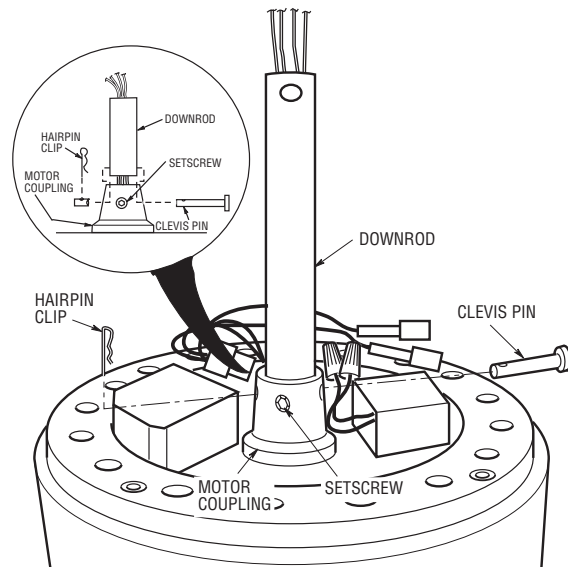

Figure 6
- 15. Slide the downrod down the wires and seat the downrod in the motor coupling (Figure 6).
- 16. Align the clevis pin holes in the downrod with the holes in the motor coupling. Install the clevis pin and secure with the hairpin clip (Figure 6). The clevis pin must go through the holes in the motor coupling and the holes in the downrod. Push the straight leg of the hairpin clip through the hole near the end of the clevis pin until the curved portion of the hairpin clip snaps around the clevis pin. The hairpin clip must be properly installed to prevent the clevis pin from working loose.
- 17. Install the setscrew (supplied) in the motor coupling and tighten using the 5/32" setscrew wrench (supplied) (Figure 6).